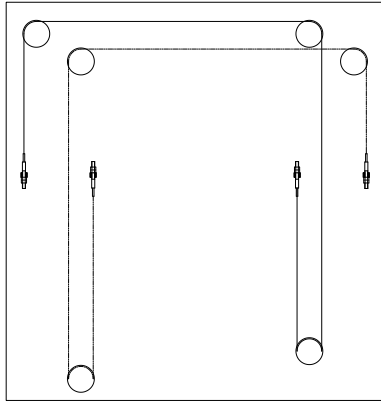

Fig.37
5. Install the synchronization cable according to fig.37.